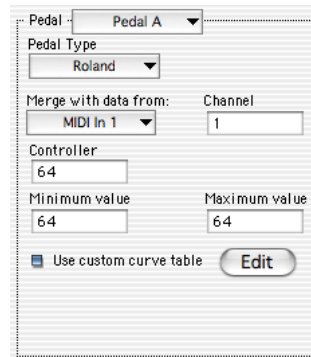

Figure 22: Roland/KORG pedal settings.
- 2 Click the *Use Custom Curve Table* check box (Figure 22 on page 14) and click the *Edit* button.